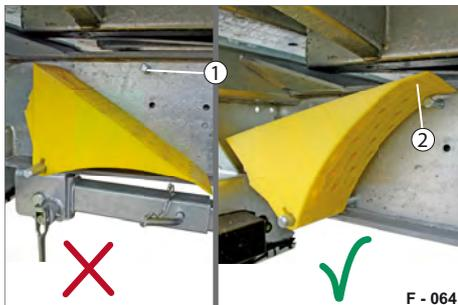

Fig. 89 Inserting wheel chock
- ▶ Lay the tip (Fig. 89/2) of the wheel chock on the support screw (Fig. 89/1).